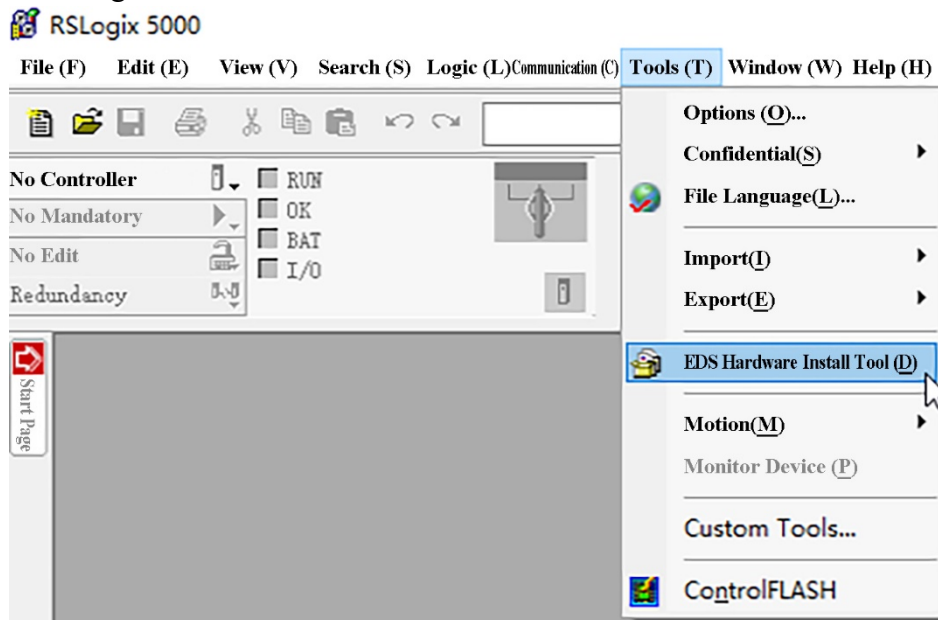
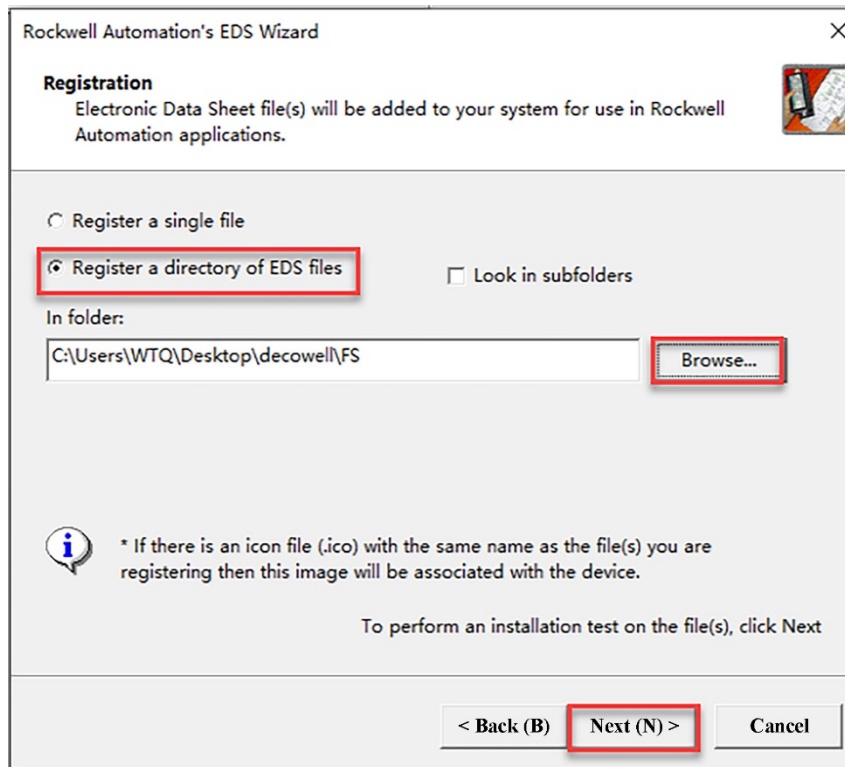

Fig.5-7-43 Install EDS File
Fig.5-7-44 Select EDS Folder Path
Open RSLogix 5000, select "Tool" > "EDS Hardware Installation Tool (D)" from the menu as shown in Fig.5-7-43. Select the specified folder in the EDS installation window as shown in Fig.5-7-44.